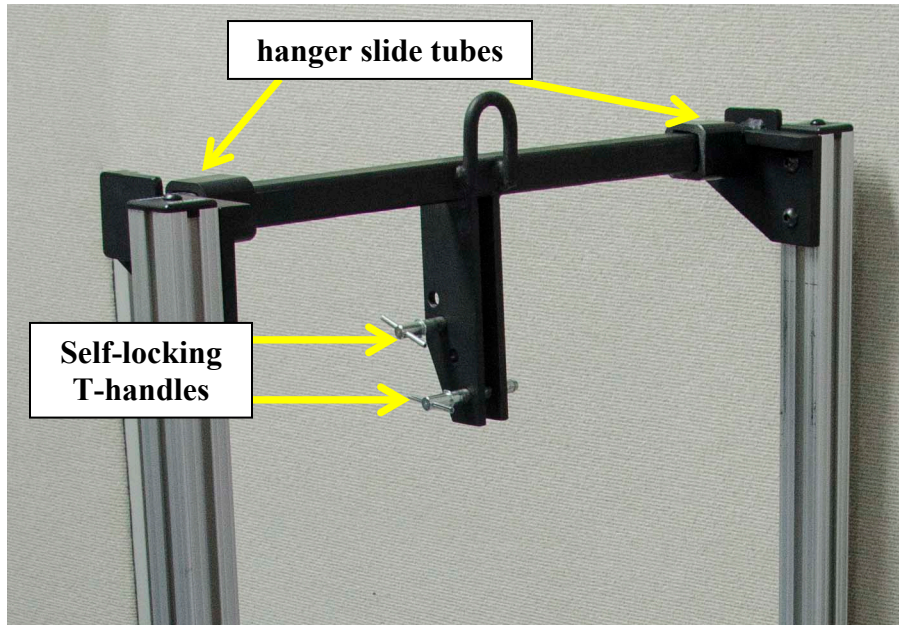
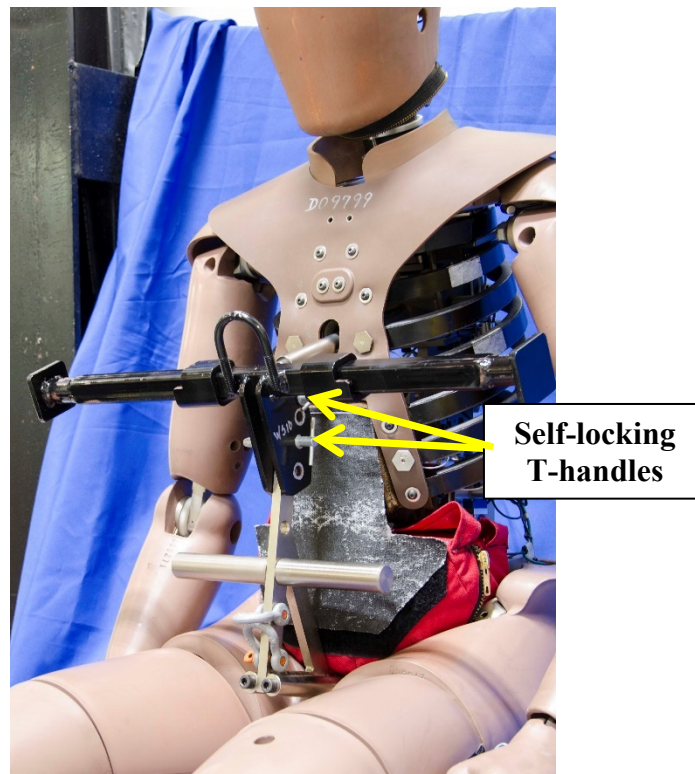

Figure 2-8. Hanger assembly which fits onto storage chair
Figure 2-9. Hanger assembly installed onto rod storage bracket
- 2.3.1.2 The hanger assembly (DL110-0700), which slides into the top of the storage chair, is illustrated in Figure 2-8. Attach the hanger assembly to the lifting bracket by sliding the hanger assembly over the main bar (472-8102) of the lifting bracket assembly using two self-locking T-handles (3/8" diameter x 2" long) (Figure 2-8 and Figure 2-9).